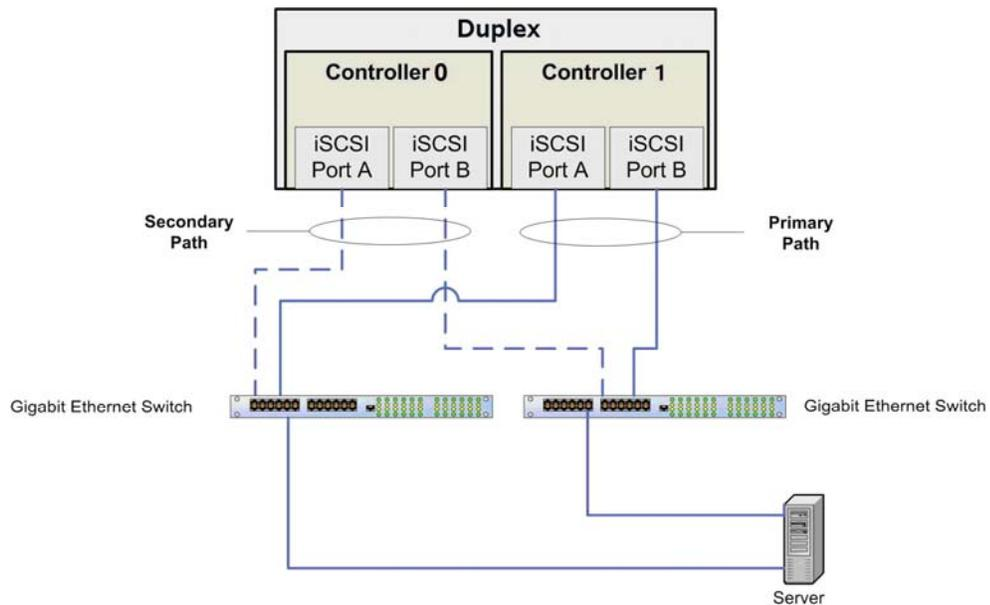

Figure 7: Highly available IP SAN configuration
Figure 7 shows a fully redundant iSCSI SAN using the DS3300 with duplex controllers. Such a configuration requires a larger investment, but if any component fails, the data will be still accessible. This Setup also allows you to use the high availability (HA) features of the DS3300 such as online firmware upgrade and load balancing between the two NICs in the Server to a logical drive owned by Controller 0, for example. This is also the preferred option for using the DS3300 in an IP SAN.